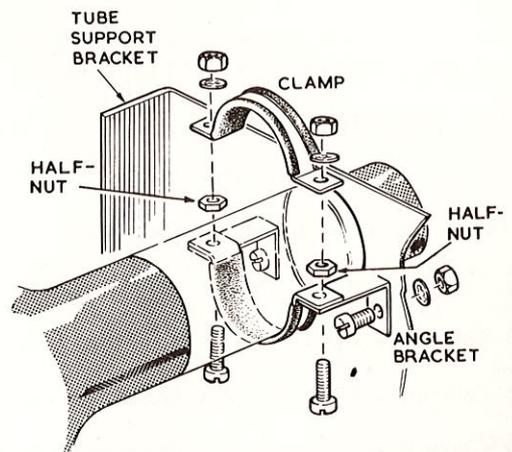

FIGURE 14
Refer to Figure 14 for the following steps:
- () Using two 4BA x $\frac{3}{8}$ " binderhead screws, lockwashers and nuts, mount the two small angle brackets to the tube support bracket as shown in Figure 14. Do not fully tighten the screws.
- () Referring to Figure 14, insert a length of rubber cushion over each clamp, making sure that the clamp is seated in the groove of the rubber strip. Cut off any surplus material.